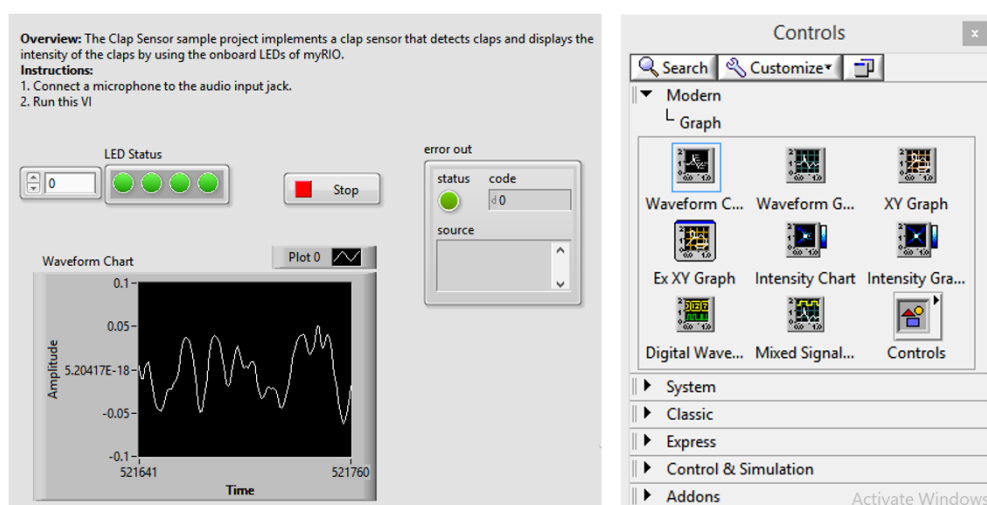

Figure 4.6: Adding Waveform Chart to the front panel
1. To visualize the data stream from the audio input channel add a ‘Waveform Chart’ to the front panel via the controls panel shown in Figure 4.6.